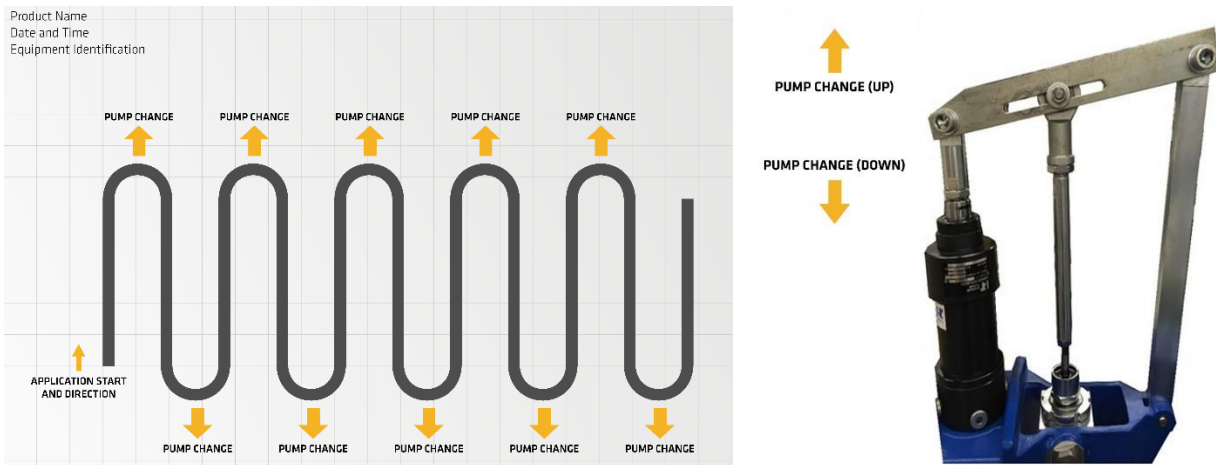

Figure 8: Schematic, application of snake test
1. Apply a continuous “snake-shaped” bead at least 10 mm thick of 2-component Sikasil® IG adhesive on a cardboard. Allow the pump to extrude for an amount of adhesive equivalent to at least 5 times the volume of A-component pump. Both the pump change on the top position (pump change up) and the pump change on the bottom position (pump change down) must be recorded on the sample as shown on the picture above (c.f. Figure 8). When the pump change occurs, the equipment releases an audible sound, and the applicator should turn the direction of the bead giving it the characteristic “S” shape like a snake.